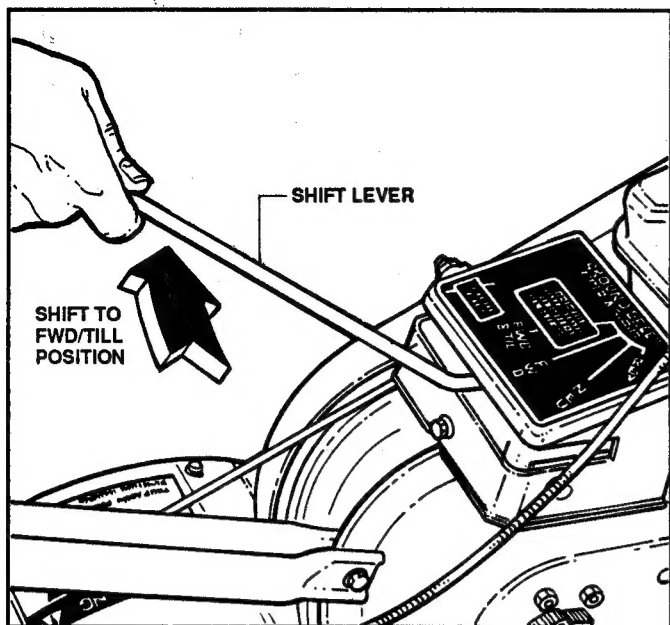

FIGURE 8
4. **BEGIN TILLING** by shifting **TRANSMISSION LEVER** to **FWD/TILL** position. Step behind tiller and lift "UP" on **WHEEL & TINE CONTROL** to start tilling. See Figure 8.